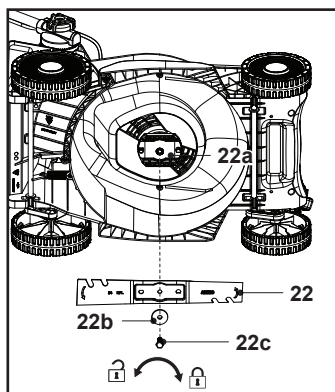

Fig. 22
5. Replace the cutting blade (22) with a new one of the same type. Check the status of blade holder (22a) onto the spindle firstly, then attach the cutting blade (22) to the blade holder (22a) by aligning it with the patterns on the blade holder (22a), fix the assembly with the flat washer (22b) and mounting bolt (22c), and tighten by hand.
6. Hold the cutting blade (22) firmly with a heavy-duty gloved hand and/or a wood stick, tighten the mounting bolt (22c) clockwise with 25 Nm min, 30 Nm max to ensure safe operation of your machine (Fig. 22).